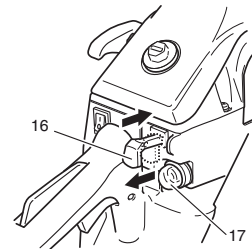

Fig. 12
*Push priming bulb (17) several times so that fuel flows through bulb into carburetor. (Fig. 12)
2. Pull the choke lever (16) to choked position (Fig. 12). This will automatically lock the throttle in starting position.
4. When you hear first ignition, return the choke to run position. (Fig. 12)